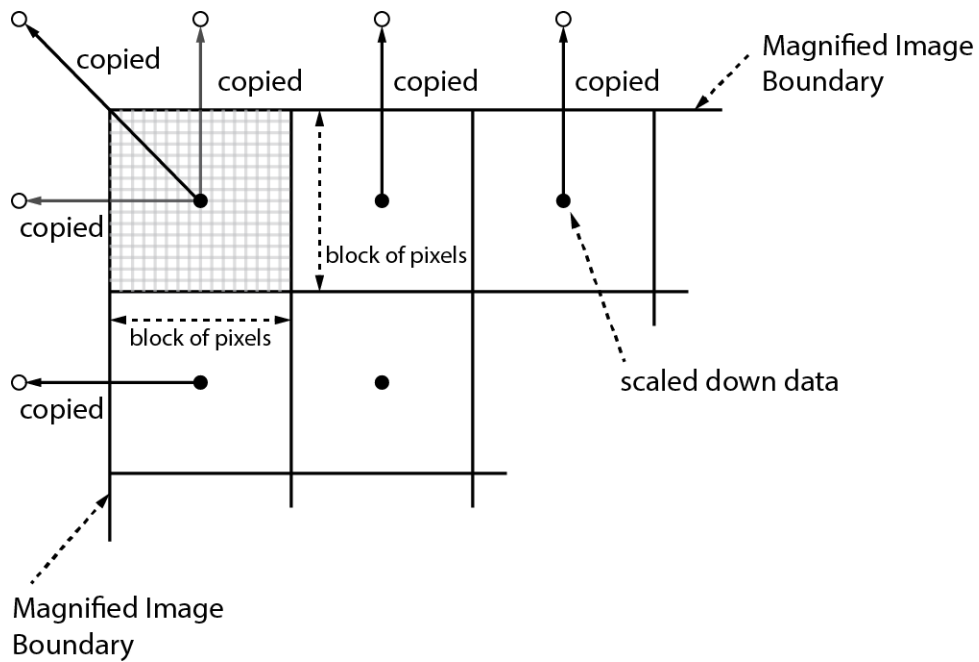

Figure 9.9 Bilinear Interpolated Magnification
3. Execute the **Flat Field Data Save** parameter to save the generated Flat Field data into the non-volatile memory. When the scaled-down Flat Field data are used for correction, they are expanded and applied with a Bilinear Interpolation as shown in the Figure 9.9.